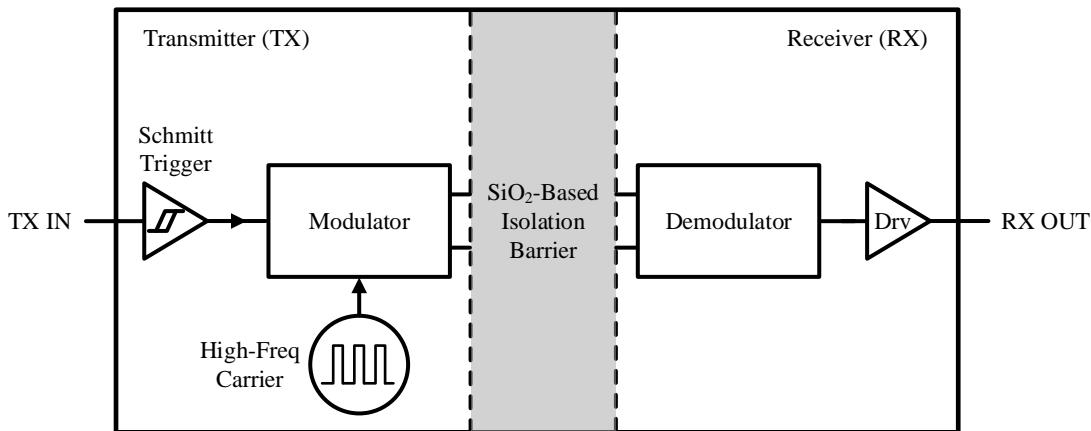
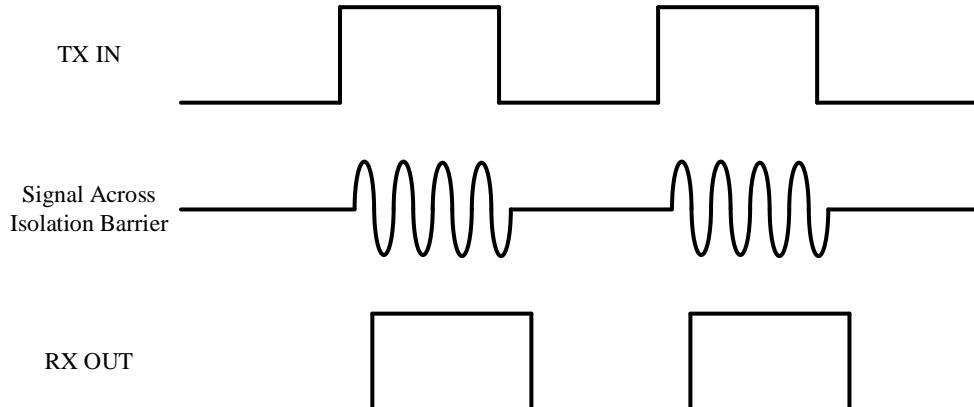

Figure 8-2 Block Diagram of an Isolation Channel
Figure 8-3 Conceptual Operation Waveforms of OOK Modulation Scheme
The CA-IS1306x devices utilize a simple on-off keying (OOK) modulation scheme to transmit the digital bitstream across the SiO2-based isolation barrier which supports up to 5-kVRMS galvanic isolation between high- and low-voltage domain. The block diagram of an isolation channel is shown in Figure 8-2. As shown in Figure 8-3, the transmitter (TX) modulates the digital bitstream with a high-frequency carrier when the signal is HIGH while sends no signal when the signal is LOW. The receiver (RX) demodulates the signal across the isolation barrier and reproduces the digital bitstream faithfully. The isolation channel adopts fully differential capacitive-coupled structure which is insensitive to common-mode transient noises, thus the CMTI performance can be maximized. This structure and related circuitry also provide low emissions and strong anti-interference capability from magnetic changes.